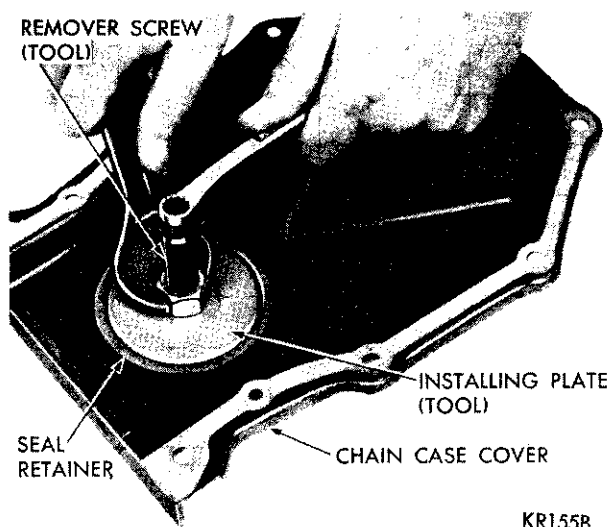

Fig. 26—Installing New Seal
(8) Install flat washer and nut on remover screw, hold screw and tighten nut (Fig. 26).